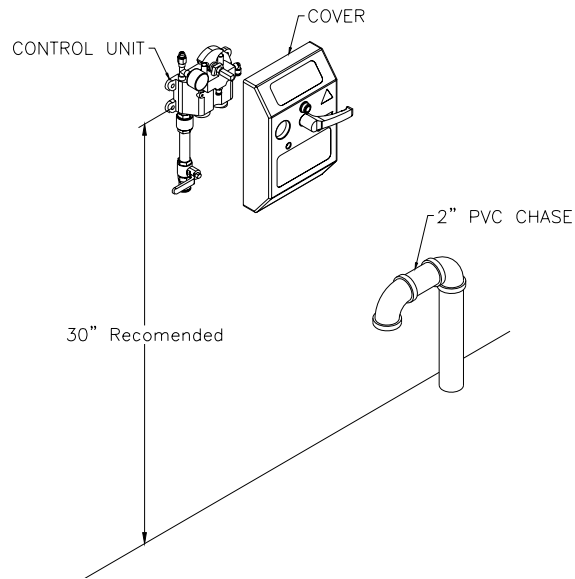

Fig. 5
- Run the 2" PVC chase from the control area and join to the lift / containment assembly using the coupling provided. Use a soap water solution to ease assembly. All PVC joints must be leak proof. The power unit end of the chase should be finished as shown in Figure 5 to prevent contamination from entering the chase, while allowing the system to breathe.
15. Install the control unit using the anchors provided. Install the cover with the provided socket head screws. Refer to Figure 5.
16. Attach the super structure to the piston using (8) M12x60mm Lg. socket head bolts per bolster. **Torque to 75 ft-lbs.**